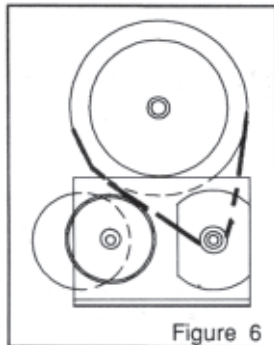

Figure 6
- A. The drive belt must be connected from the small pulley on the wrapping motor shaft to the large diameter groove of the double pulley which drives the chuck. See Figure 6. To remove the belt from the machine or to install a new belt, press down gently on the wrapping motor. This will allow clearance for the belt by enlarging the gap between the motor mount and drive pulley. **DO NOT FORCE THE BELT THROUGH THIS GAP.** Even a slight abrasion will decrease its life or result in immediate belt failure.